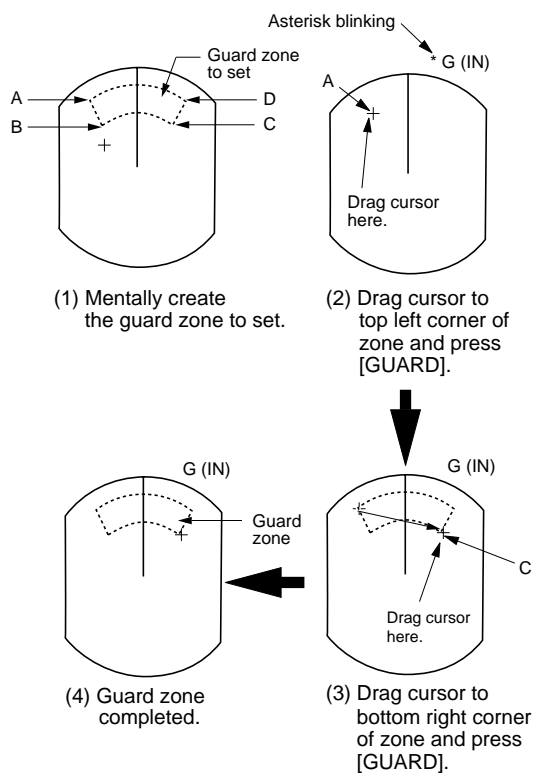

Figure 3-8 How to set the guard zone
2. Operate the omnipad to set the cursor on point A or B. Press the [GUARD] key. “\*G (IN)” or “\*G (OUT)”, with asterisk blinking, appears at the top right-hand corner of the display. See Figure 3-8 (2). (The asterisk indicates the guard zone is partially set.)
3. Operate the omnipad to set the cursor on point C or D. See Figure 3-8 (3).
4. Press the [GUARD] key. The asterisk disappears. See Figure 3-8 (4).